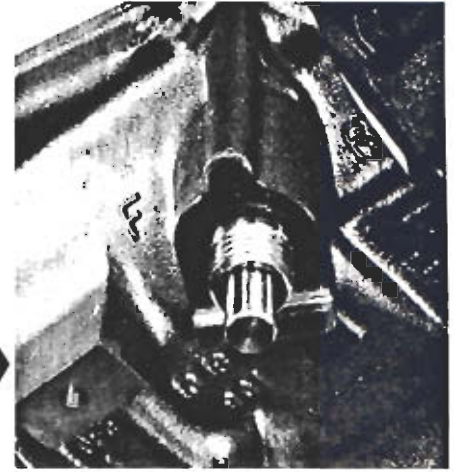

Figure 40 Retaining ring in groove
**STEP 62** Assemble retaining ring in the exposed groove of selector valve, figure 40.